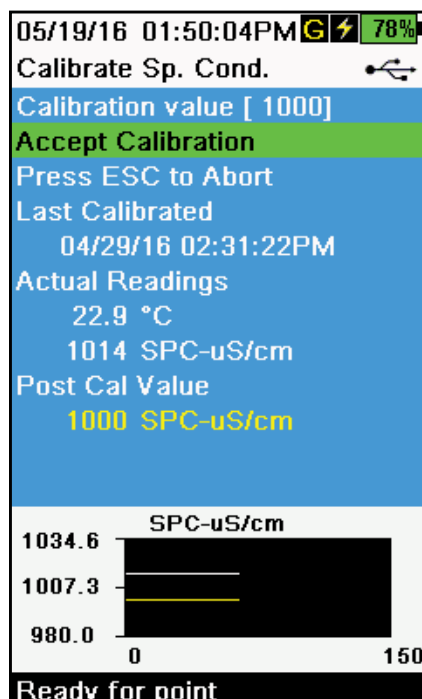

Figure 32 Calibrate Conductivity
8. Observe the actual measurement readings for stability (white line on graph shows no significant change for 40 seconds), then select **Accept Calibration** (Figure 32). "Calibration successful!" will be displayed in the message area.